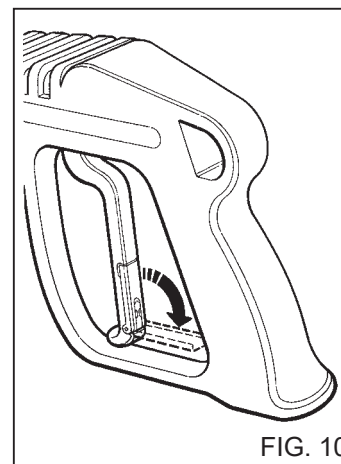

FIG. 10
- When the water cleaner is not used, close the safety device on the handle.(fig. 10).